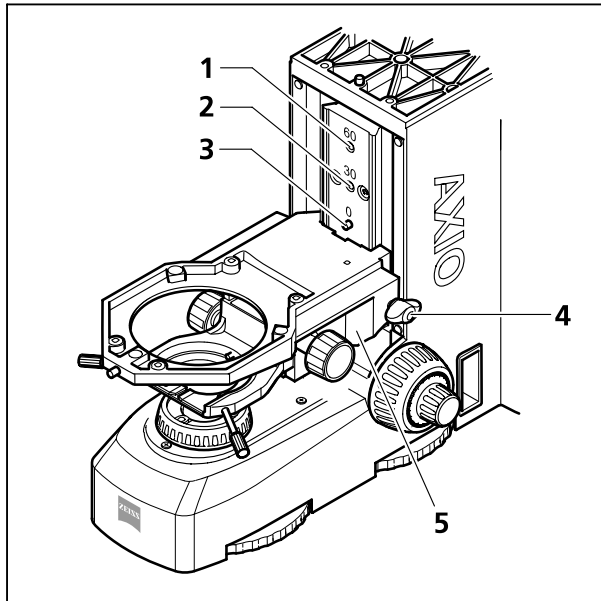

Fig. 3-20 Mounting the stage carrier
- Screw the shoulder screw (Fig. 3-20/3) into the appropriate opening:
- Opening with mark **0**: **no** adapter is mounted for specimen holder expansion (Fig. 3-20/3),
- Opening with mark **30**: adapter is mounted for expanding specimen holder by **30 mm** (Fig. 3-20/2),
- Opening with mark **60**: adapter is mounted for expanding specimen holder by **60 mm** (Fig. 3-20/1).
- Insert the stage carrier (Fig. 3-20/5) at a slight angle (beneath the shoulder screw) first left into the guide, then press it in straight and tighten the Tommy screw (Fig. 3-20/4) slightly.